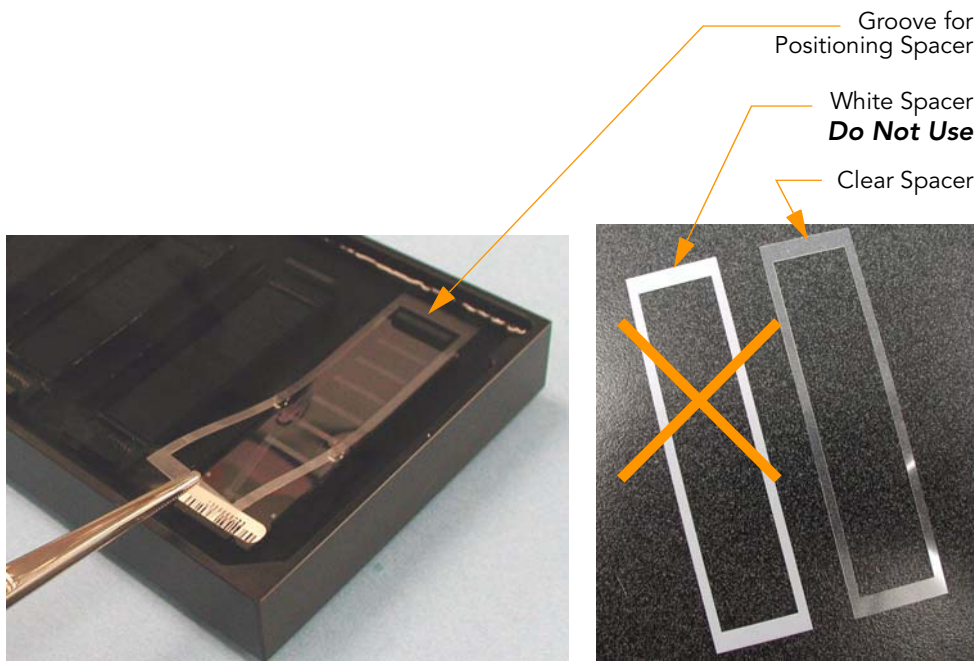

Figure 130 Placing Clear Plastic Spacer onto BeadChip
3. Place a clear spacer onto the top of each BeadChip to be processed (Figure 130). Use the Alignment Fixture grooves to guide the spacers into proper position.